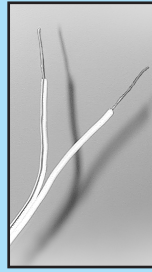

FIG. 3-6 Splitting and
- Splitting and stripping wire ends to be connected as shown (Fig. 3-6).
- 2. Remove 1/2" insulation from each wire (Fig. 3-6)(pg. 19).**